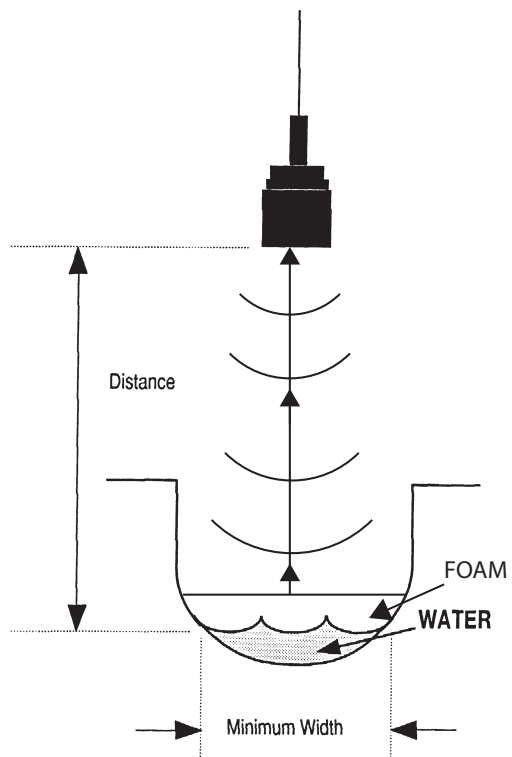

Figure 2-8 Foam and Oil on the Surface of the Stream
**Avoid Foam, Oil, and Turbulence** – If the flow stream surface is absorbent (such as with foam) or very irregular (such as highly turbulent water), the ultrasonic echo may not be correctly reflected back to the ultrasonic level sensor. This can result in a false measurement or no measurement at all. If the foam is reflective, the system will detect the top of the foam rather than the liquid surface. Also, if grease or oil is floating on the flow stream surface, it will be detected rather than the liquid surface. (See Figure 2-8.)